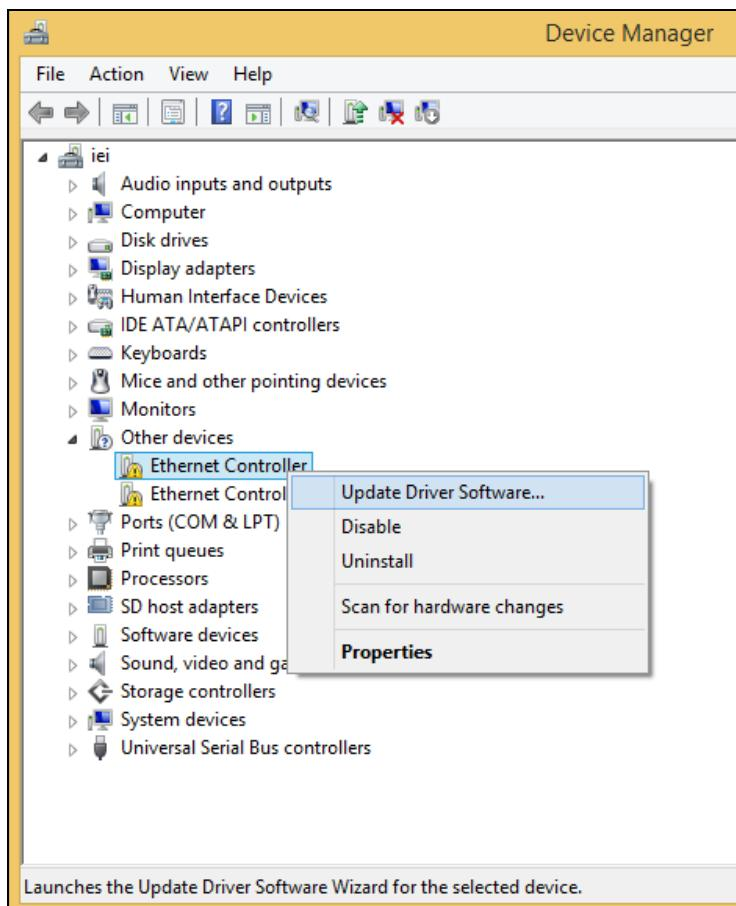

Figure 6-15: Device Manager List
Step 4: A list of system hardware devices appears (**Figure 6-15**).
Step 12: Right-click the other Ethernet controller that has question marks next to it as shown in **Figure 6-15**. Repeat **Step 6 – Step 11** to install the second Ethernet controller driver.